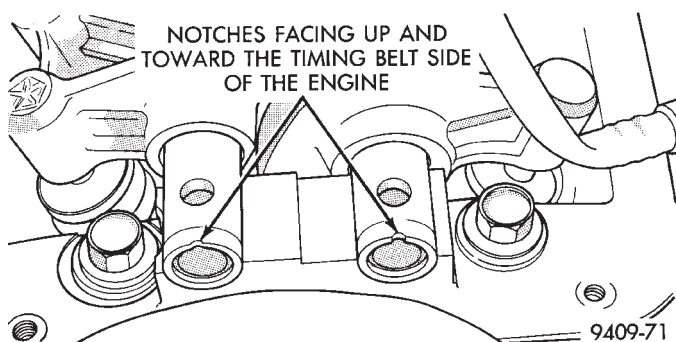

Fig. 30 Rocker Arm Shaft Notches
(2) Install rocker arm and shaft assemblies with NOTCH in the rocker arm shafts pointing up and toward the timing belt side of the engine (Fig. 30). Install the retainers in their original positions on the exhaust and intake shafts (Fig. 28).